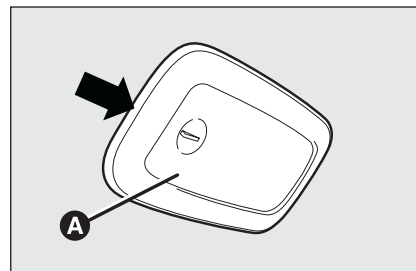

fig. 38
- remove the light unit **A**-fig. 38 levering in the point shown by the arrow;